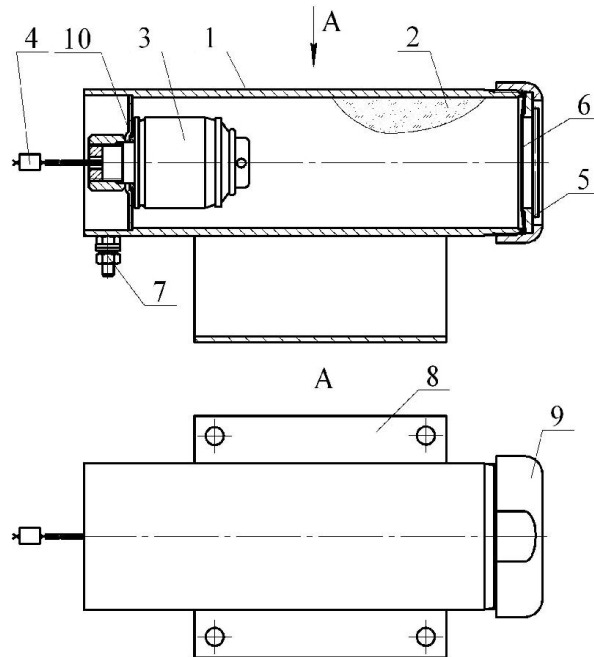

Figure 1
4.1.1 The MPP (see Figure 1) consists of a case **1** where fire extinguishing powder (OP) **2** and cold gas source (CGS) **3** with electric triggering element **4** are placed. In the front part of the case there is a nozzle-sprayer **5**, the output hole of it is closed by membrane **6**. The module has grounding clamp **7**.
- after performing reexamination, reloading the MPP under item 7.2 if they were not carried out at the factory-manufacturer;
- CGS-0.65 (M)-01 SIAV 066614.025.000 TU for MPP of normal version; CGS-0.65 (M)-02 SIAV 066614.025.000 TU for MPP of special version, or CGS-0.65 (M)-06 SIAV 066614.025.000 TU for MPP of wide temperature operation range (see item 3 on Figure 1) – 1 item;
- rubber ring 020-026-36 GOST 9833-73 (see item 9 on Figure 1) – 1 item;
- fire-extinguishing powder ISTO-1 TU 2149-001-54572789-00 (see item 2 on Figure 1) – 0.5 kg;
- membrane of SIAV 634233.007.005 drawing (see item 6 on Figure 1) – 1 item.